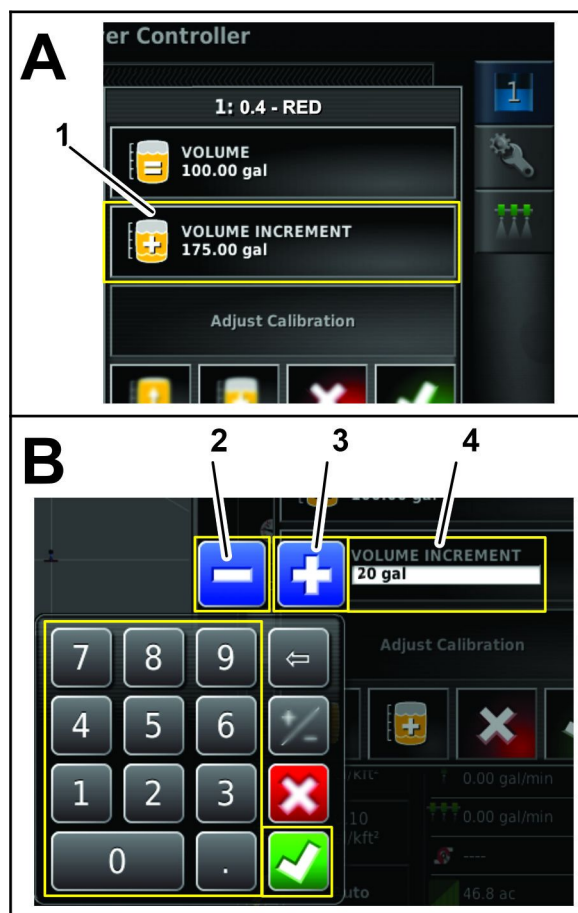

Figure 126
1. Press the TANK FILL icon (Figure 126).